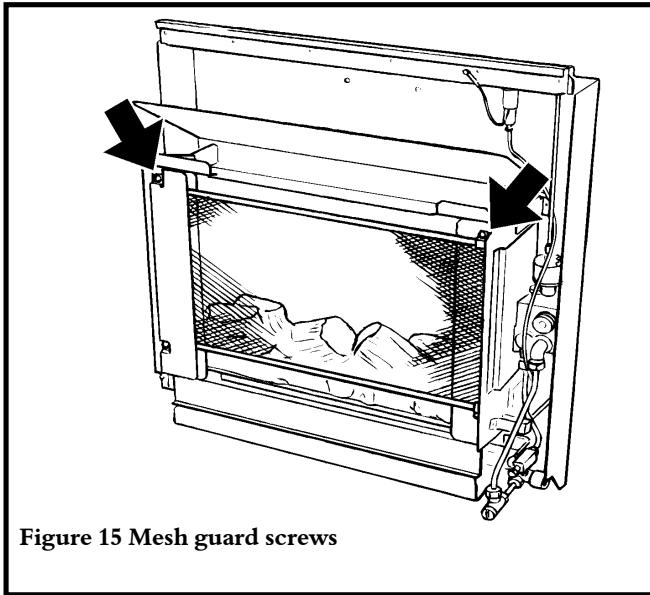

Figure 15 Mesh guard screws
- 3) Remove the two screws securing the upper corners of the mesh guard (figure 15).